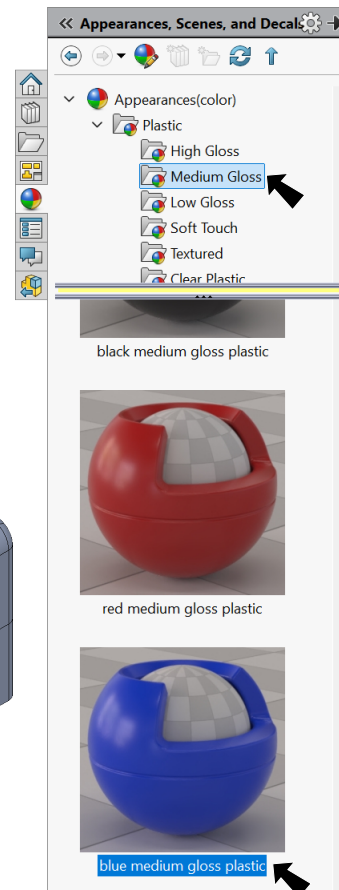

Fig. 72
Step 3. In the Appearances Task pane, expand **Plastic**, click **Medium Gloss** and in the lower pane select **blue medium gloss plastic**, Fig. 72.